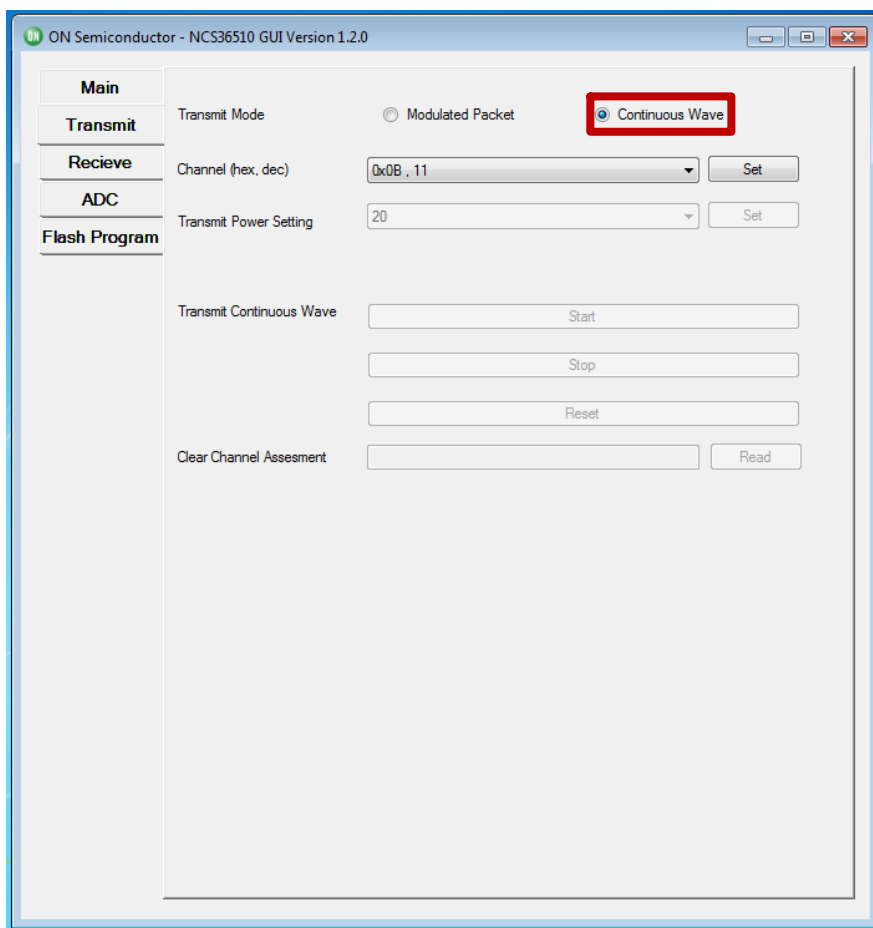

Figure 11. GUI–Transmit–Continuous Wave Transmit Mode
3. In order to get to continuous wave mode press the “Continuous Wave” radio button that will result in the “Transmit Tab” to change and the “Transmit” page will look as shown in Figure 11.